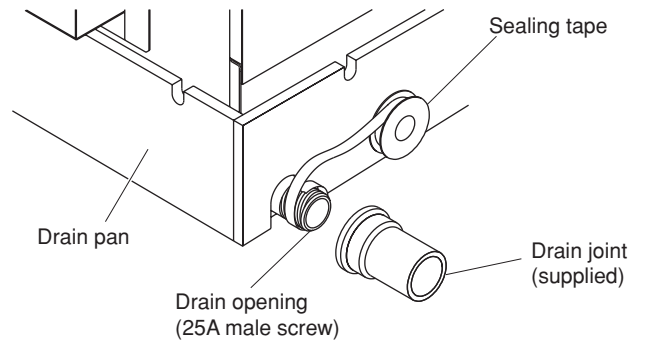
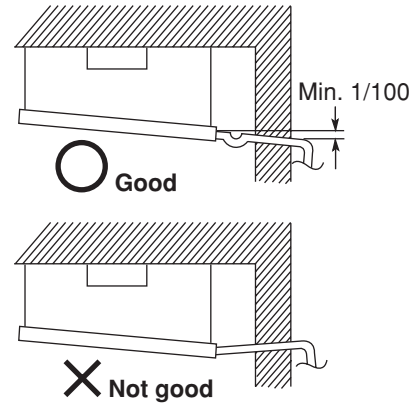

Fig. 3-104a
Fig. 3-104b
- (2) If connecting a drain joint (supplied) to the threaded drain port, first wrap the drain port threads with sealing tape, then connect the joint. (Fig. 3-104a)
- (3) After connecting the drain pipe securely, wrap insulator (field supply) around the pipe.
- (4) Ensure the drain pipe has a downward gradient (1/100 or more) and prepare traps as indicated in Fig. 3-104b.